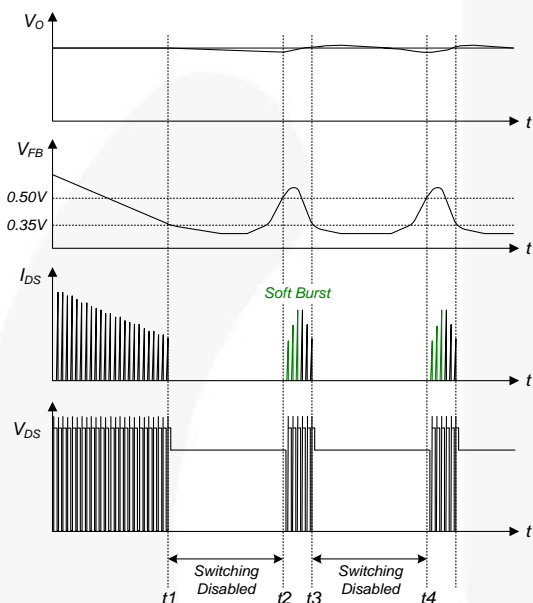

Figure 26. Burst-Mode Operation
5. Soft Burst Mode: To minimize power dissipation in Standby Mode, the FSL137MRIN enters Burst-Mode operation. As the load decreases, the feedback voltage decreases. As shown in Figure 26, the device automatically enters Burst Mode when the feedback voltage drops below V_{BURL} (350 mV). At this point, switching stops and the output voltages start to drop at a rate dependent on standby current load. This causes the feedback voltage to rise. Once it passes V_{BURH} (500 mV), switching resumes. The feedback voltage then falls and the process repeats. Burst Mode alternately enables and disables SenseFET switching, reducing switching loss in Standby Mode.